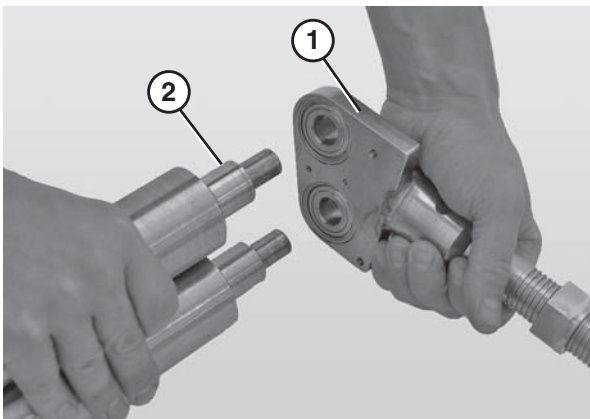

Figure 80
- Slide the nose bar shafts (Figure 80, item 1) off the nose bar spindles (Figure 80, item 2).